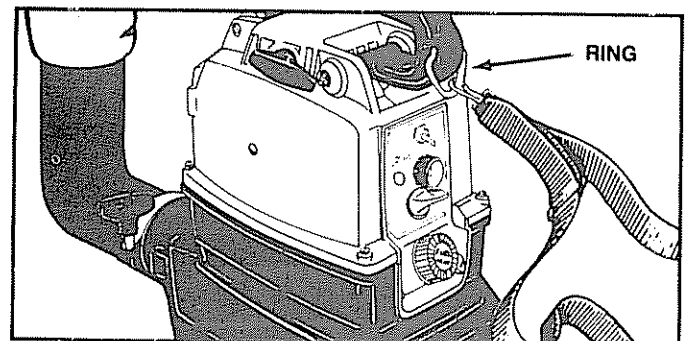

Figure 6
- It is easier to put on the collection bag strap first, then the engine strap, clipping the strap to the engine last. Figure 6.